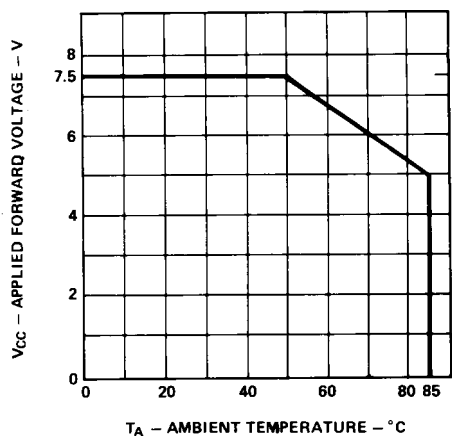

Figure 3. Maximum Allowed Applied Forward Voltage vs. Ambient Temperature $R\theta_{JA} = 175^{\circ}\text{C/W}$. 5 Volt Devices.
2. Derate from T_A = 50°C at 0.071 V/°C, see Figure 3.